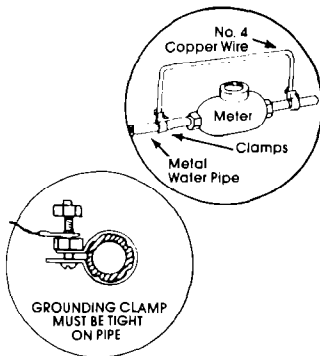

Figure 3
5. **DO NOT** ground to a gas supply pipe. Do Not connect to electrical supply until appliance is permanently grounded. See Figure 3. Grounded cold water pipe must have metal continuity to electrical ground and not be interrupted by plastic, rubber or other electrical insulating connectors such as hoses, fittings, washers or gaskets (including water meter or pump). Any electrical insulating connector should be jumped as shown with a length of No. 4 copper wire securely clamped to bare metal at both ends.